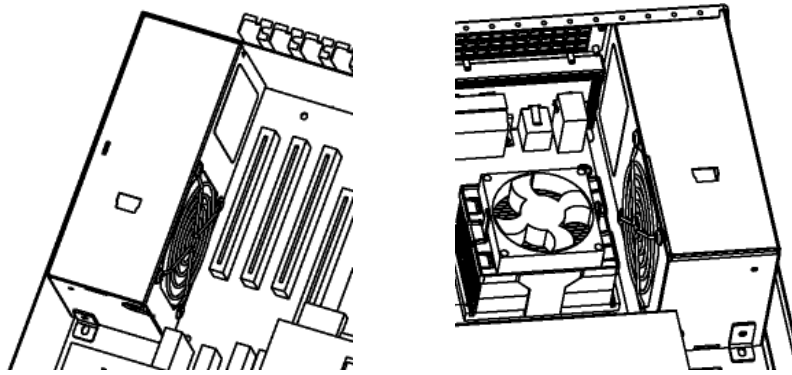

Figure 7. Fan Right and Fan Left Orientations of Power Supply in a Chassis
The TFX12V mechanical design provides two options for mounting in a system chassis. The unit can be mounted using one of the mounting holes on the front end (non-vented end) or a chassis feature can be designed to engage the slot provided in the bottom of the supply. In order to accommodate different system chassis layouts, the TFX12V power supply is also designed to mount in two orientations (fan left and fan right) as shown in Figure 7. A mounting hole and slot should be provided for each orientation as shown in Figure 5. Details of a suggested geometry for the mounting slot are shown in Figure 6.
**Fan location/direction:** In general, exhausting air from the system chassis enclosure via a power supply fan is the preferred, most common, and most widely applicable system-level airflow solution. The location of the fan can have a large effect on how efficiently this air is exhausted. The location of the fan shown in Figure 5 allows the fan to be located close to the processor cooling solution when used in the common fan left configuration shown in Figure 7. This close proximity of the fan will aid in the evacuation of heated air and helps keep the total system cooler.